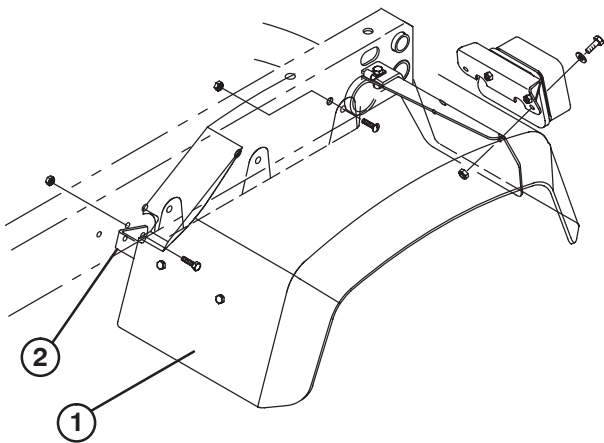

Figure 2
4. On left side, remove (2) capscrews, washers and nuts securing tail light mounting bracket to tail light plate (Fig. 2).